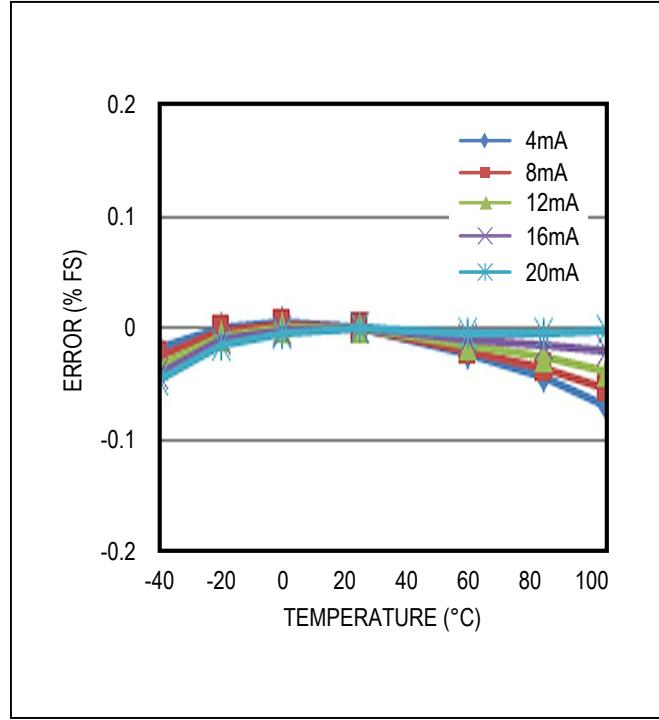

Figure 10. Transmitter Error Change vs. Temperature with 36V Loop Supply
- Remove the  $J3$ – $J5$  shunts (see Figure 10 for component placement).